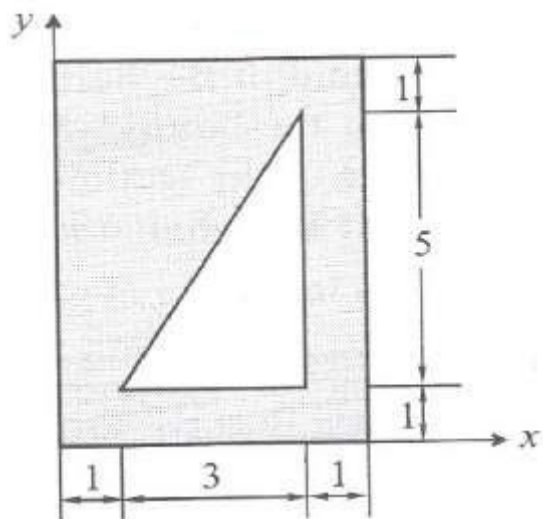

Figure 3
- d. Find the Moment of Inertia about the centroidal axis in the given Figure 3. [7M]